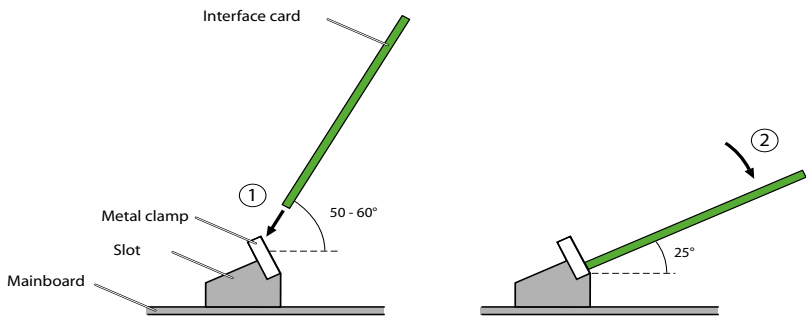

Fig. 23 Fitting an interface card
3. Place the interface card at a slight angle into the required slot (see Fig. 23). Make sure the angled side of the interface card is facing backwards (i.e. it must not project over the wiring adapter slots).